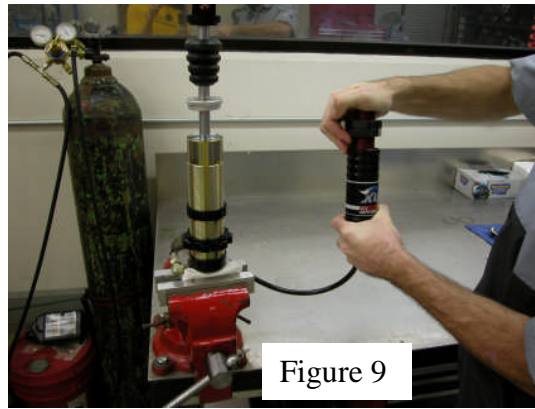

Figure 9
14. Align the slot of the IFP Depth Setting Tool with the end of the IFP (Internal Floating Piston). Insert the IFP Depth Setting tool into reservoir and rotate 90 degrees to engage the IFP. Push the IFP Depth Setting Tool until the IFP bottoms out inside of reservoir. This will cause shaft assembly to be pushed out of the body tube. **(Figure 9)** If this does not happen easily, you will need to pull up on the shaft assembly to remove it from the shock body. Remove the shaft assembly from the body tube, and place on a clean, lint free paper towel.